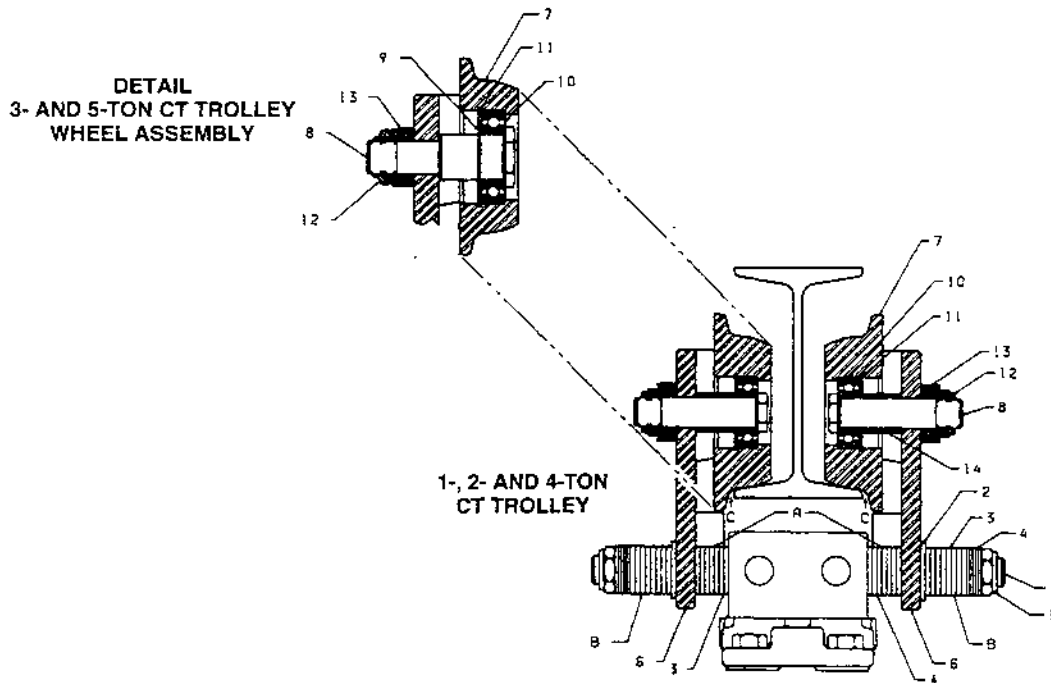

FIGURE 2-1. COFFING CT TROLLEY
- b. See Figure 2-1 for instructions on adjusting lug-mounted plain trolleys.
- a. **"I"-Beam Adjustment.** Adjustment for "I" beam sizes and tolerances is accomplished by locating the spacer washers as shown in Figure 2-1. Normal placement of washers is given in Table 2-2. Refer to Table 2-1 for identification of part names and numbers.